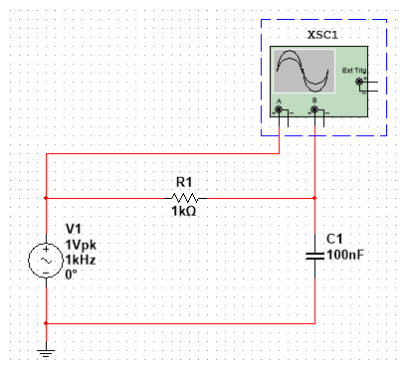

Figure 5. RC circuit and oscilloscope.
2. Connect **Channel A** to **V1** and **Channel B** to the point between **R1** and **C1** (Figure 5).